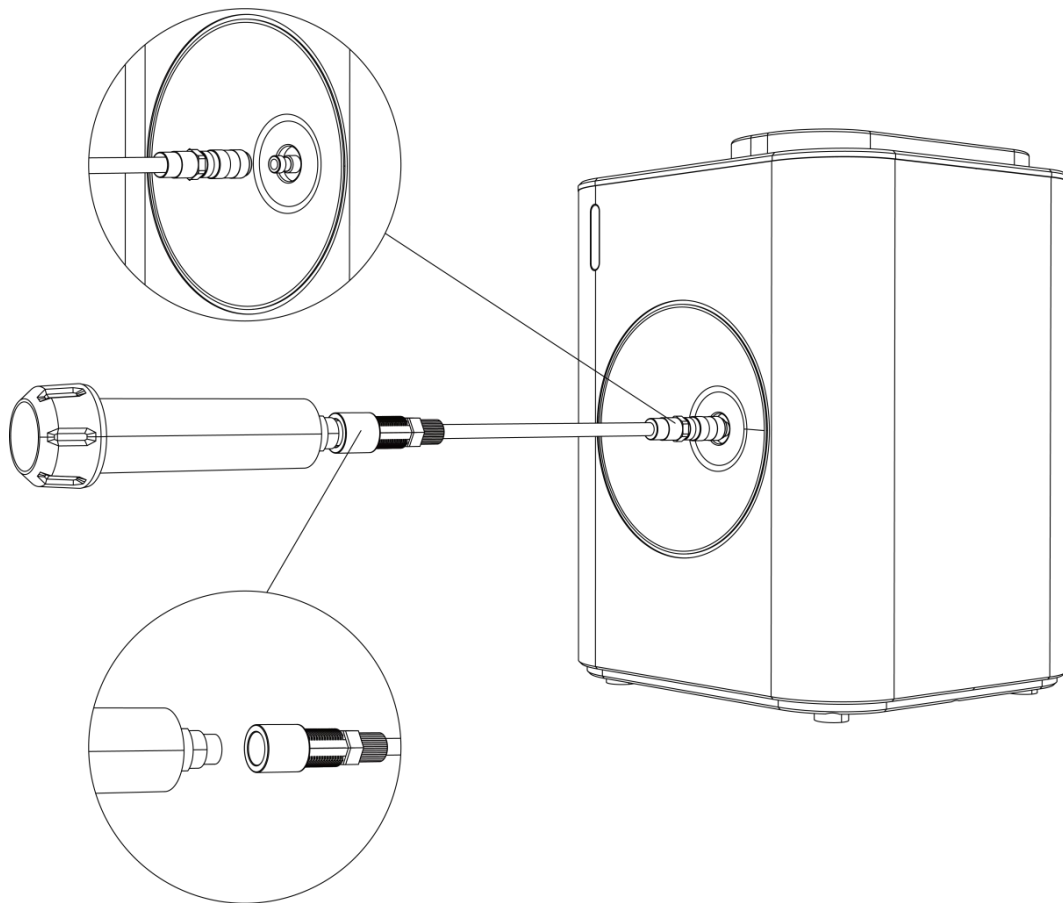

Figure 6-2 Metal Hydride Cylinder Charging Diagram
- As shown in Figure 6-2, use the inflation connector to slowly screw and connect the hydrogen storage alloy to the hydrogen generator until it is tight.